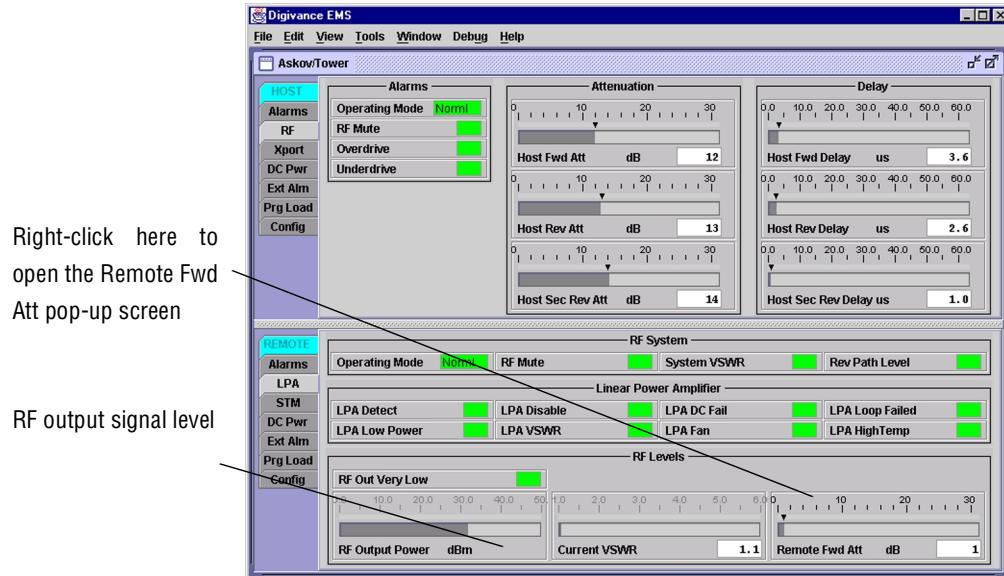
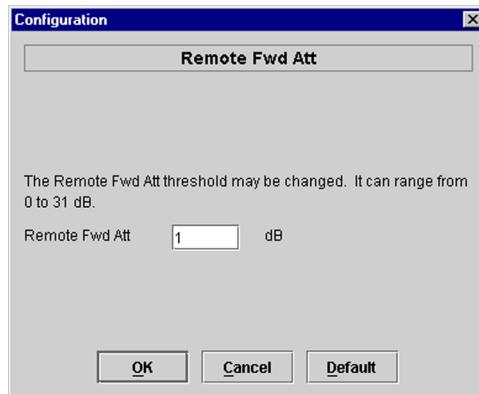

Figure 4-10. REMOTE LPA Display
Figure 4-11. Remote Fwd Att Pop-Up Screen
1. Click on the REMOTE LPA tab. The REMOTE LPA display will open within the EMS main window as shown in Figure 4-10.
4. Right-click on the **Remote Fwd Att** section of the display (see Figure 4-10). The **Remote Fwd Att** pop-up screen will open as shown in Figure 4-11.
6. Verify that the appropriate RF output signal level appears in the **RF Pwr-VSWR Low** section (see Figure 4-10). This is primarily a reference value and should not take the place of external test equipment when determining the power level of the composite RF output signal. Depending on the modulation type and number of channels, the EMS software may report a power level that is higher or lower than the actual RF output signal.